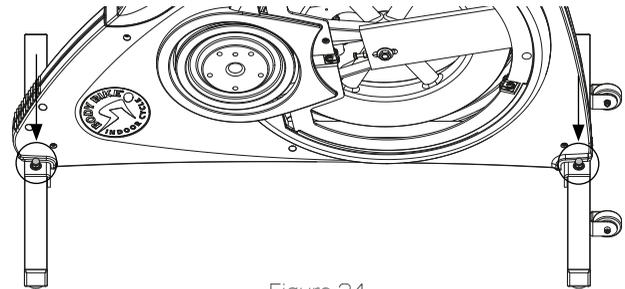

Figure 24
- 3) Dismount the top nut and washer on the bottom frame on the right side of the cycle both in front and back with a 13 mm wrench. See figure 24.
- 4) Screw the bolts down in order for the side covers to slide past them. See figure 24.